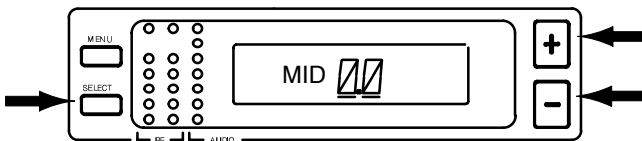

FIGURE 27
- Press the SELECT button to display the current squelch level, as shown in Figure 27 (factory preset value is "0.0").